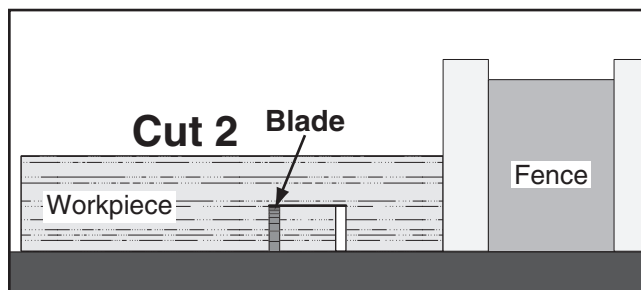

Figure 57. Second cut for a single blade dado.
8. Repeat the cutting operation on the other side of the dado channel, as shown in **Figure 57**.